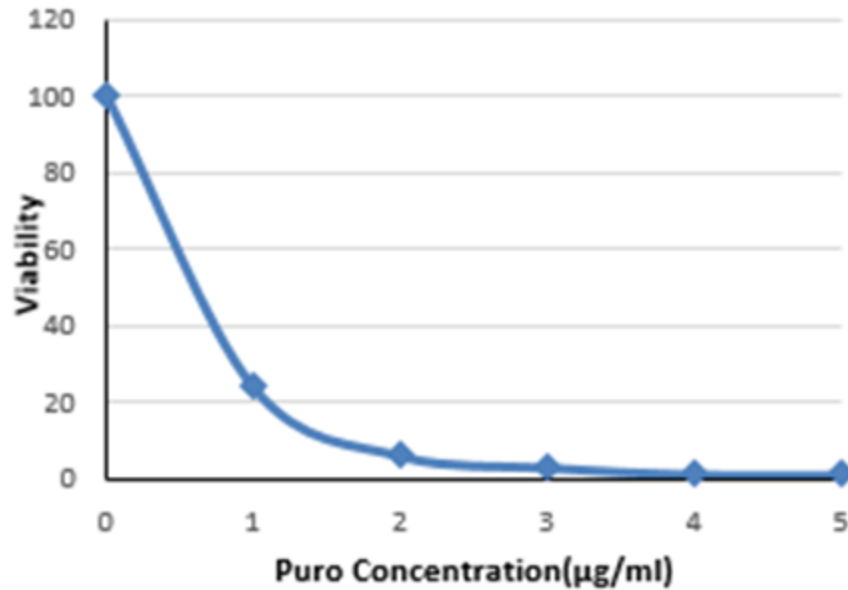

Fig 2: Example kill curve showing a 'kill concentration' of 3 µg/ml.
2.3 Using the luminescence data plot a kill curve to ascertain the lowest concentration of puromycin which results in approximately 100% cell death after 72 hours. (Fig 2).